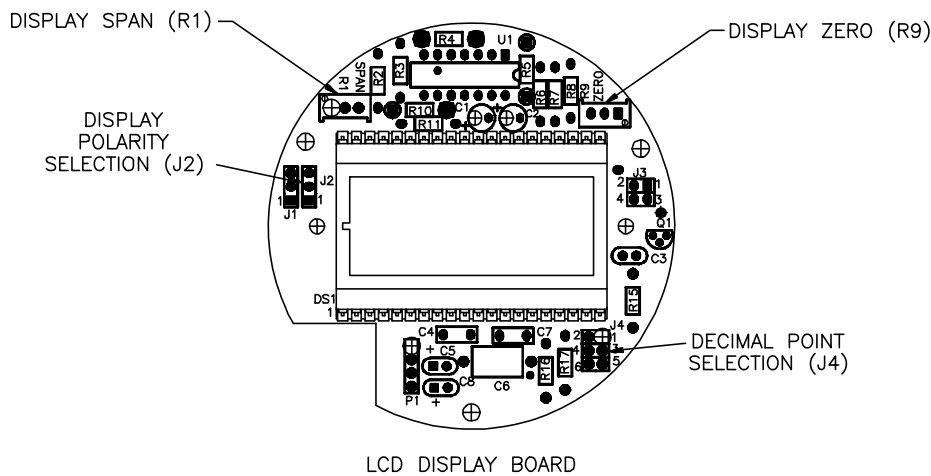

Figure 6.2
3. Verify the LCD display (if so equipped) reads 000 ± 001 . Adjust as necessary using **ZERO** (R9 on Display board, see Figure 6.2).
4. Verify the LCD display (if so equipped) reads the desired minimum process value. Adjust as necessary using **ZERO** (R9 on Display board, see Figure 6.2) until desired reading ±001 is achieved.